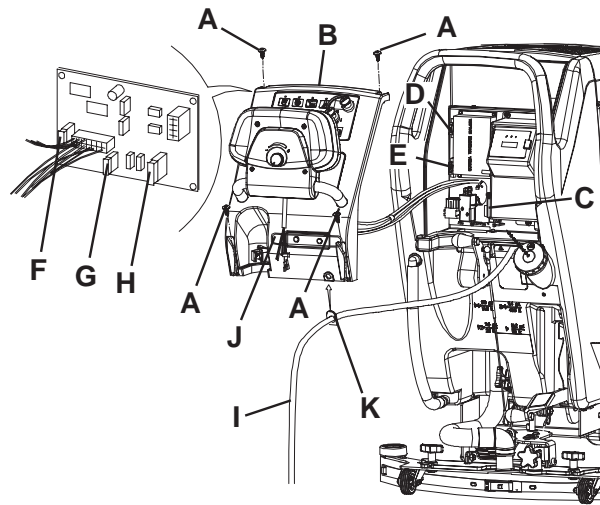

Figure 10
1. Disconnect the battery connector (12).
2. Move aside the recovery water drain hose (16).
3. Remove the battery charger cable (I, Fig. 10) from the holder (J).
4. Remove the screws (A) and carefully move aside the panel (B) by disengaging the grommet (K) from its housing on the panel (B).
- (C)F1 fuse, deck: (40 A)
- (D)F2 fuse, vacuum system: (30 A)
- (E)F3 fuse, drive system: (30 A)
- (F)F4 fuse, signal circuits: (3 A)
- (G)F5 fuse, brush/pad-holder release: (20 A)
- (H)F6 fuse, pump: (3 A)